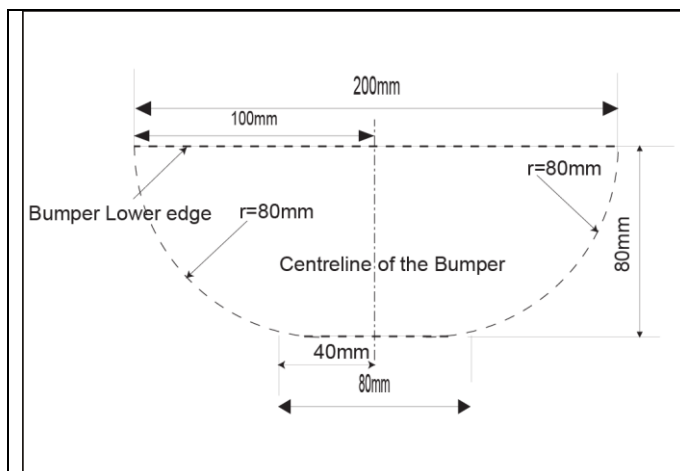

Figure 7 – Bumper Cut out Illustration.
18. Cut the bumper in accordance with the illustration provided in Figure 7.